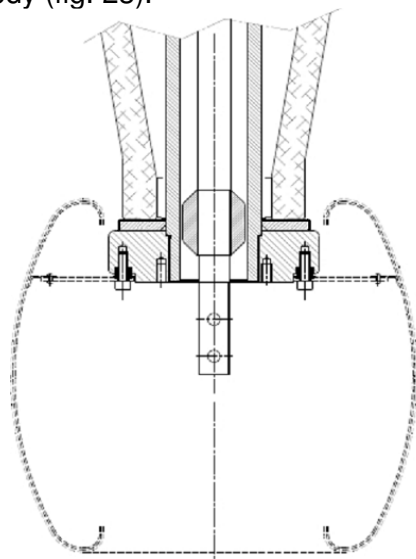

Fig. 23
The connection coming from the transformer can be brazed or fixed by screws (depending on the type, see for example fig. 23) to the lower extremity of the conductor.
- Shield with bayonet type coupling: it can be removed downwards rotating and pulling down its body (fig. 23).